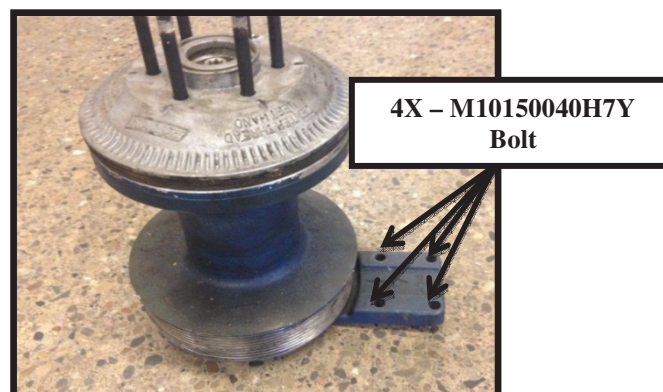

FIG. 3-2
- a. The first mounting configuration utilizes four exposed hex head fasteners. Refer to FIG. 3-2. Properly dispose of hardware.